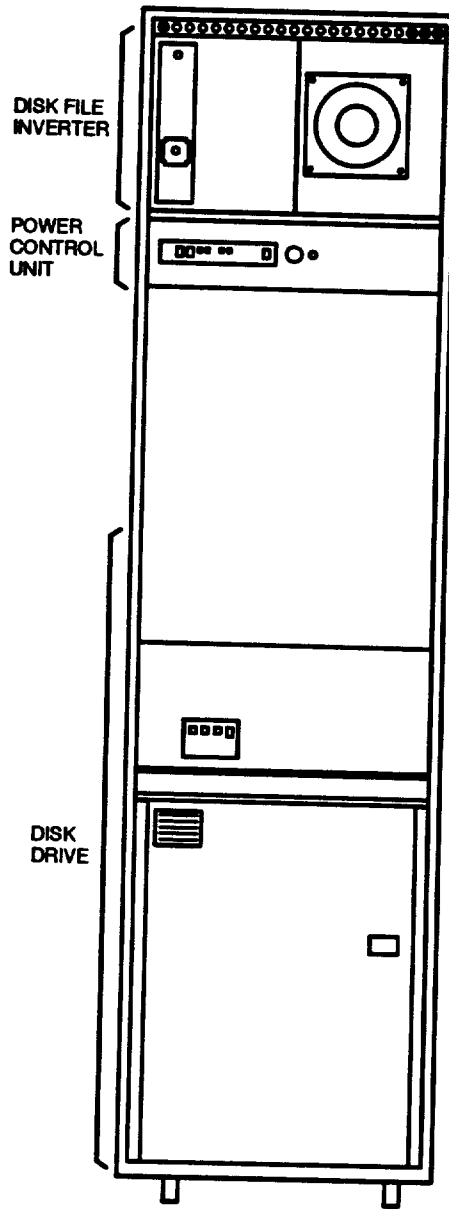

Figure 1. Moving Head Disk Drive Frame
- 2.02** Figure 1 illustrates the J1C131A-1 disk drive frame.